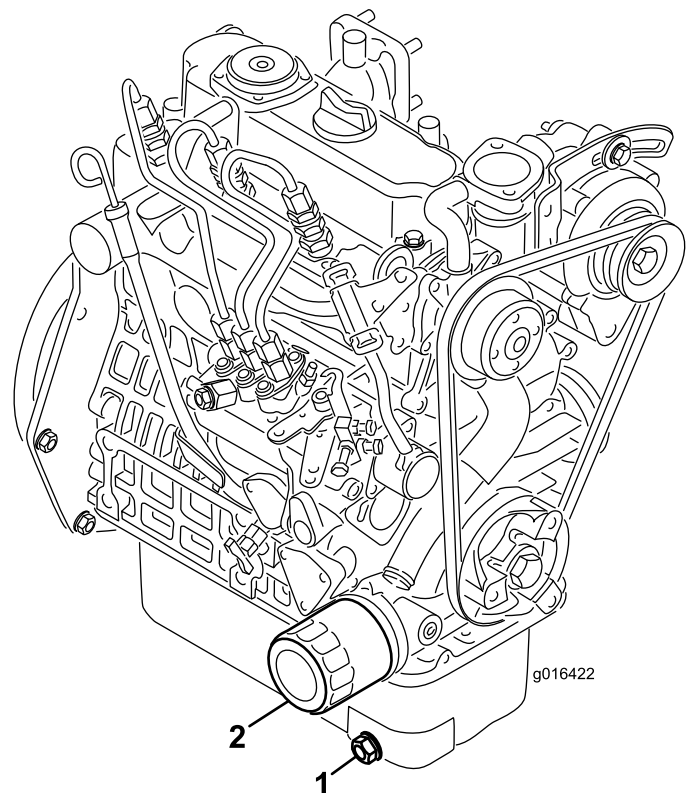

Figure 39
1. Remove the drain plug (Figure 39) and let the oil flow into a drain pan. When the oil stops, install the drain plug.